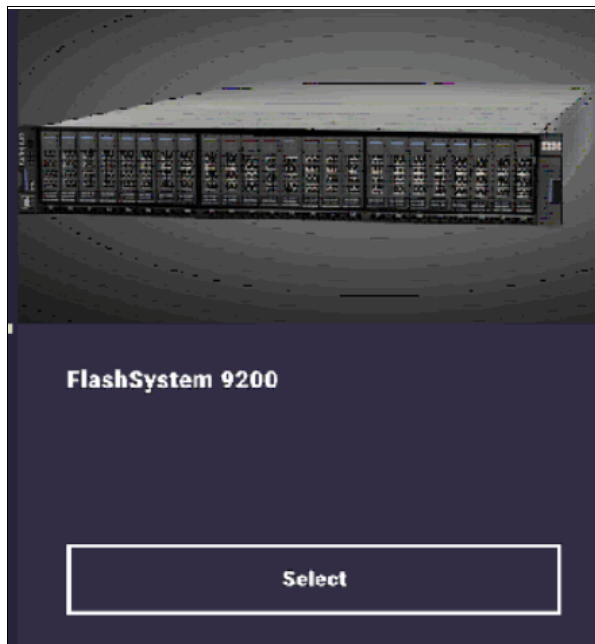

Figure 10-9 RCL Product type page
3. Next is the Product type selection for RCL. Go to FlashSystem 9200 option and click **Select** (see Figure 10-9).